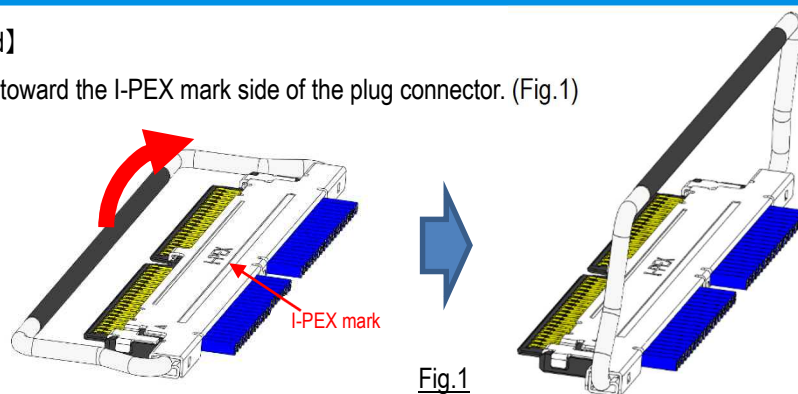

Fig.1
- ① Rotate the lock bar toward the I-PEX mark side of the plug connector. (Fig.1)